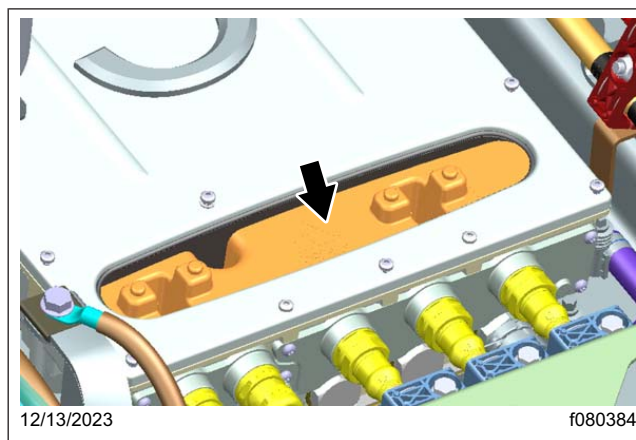

Fig. 5, Delayed Access Cover
13. Remove the delayed access cover, shown in Fig. 5.
57. Install the delayed access cover, shown in **Fig. 5**. (See page 9)